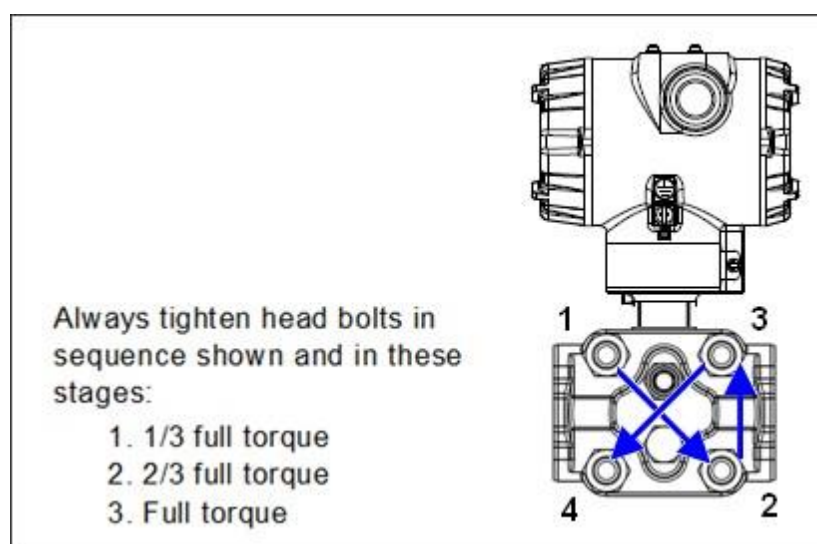

Figure 27 – ST 700 Standard Transmitter - Head Bolt Tightening Sequence
15. Refer to Figure 27. Apply Dow Corning #33 silicone grease to the meter body adapter O-ring and carefully assemble the O-ring to the meter body. Assemble the process head(s) and bolts to the new meter body. For now, make the bolts only finger tight.